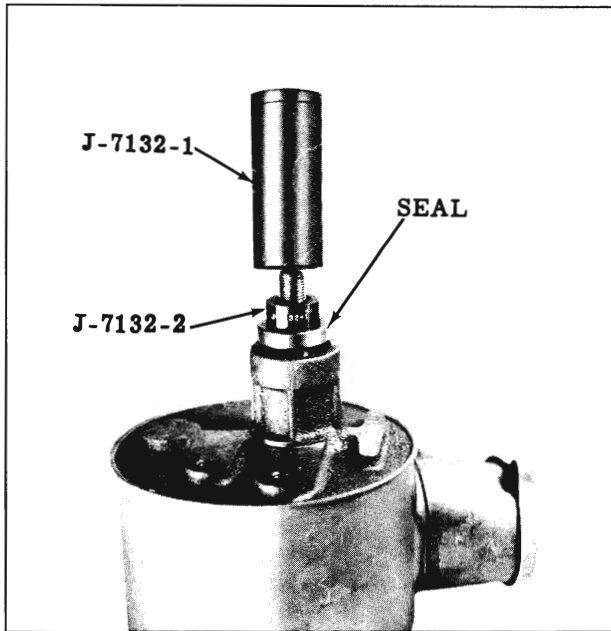

Fig. 4-24 Installing Pump Seal
5. Slide Tool J-7132-1 (with seal) over drive shaft, then using Tool J-7132-2, drive seal into pump body. (Fig. 4-24)